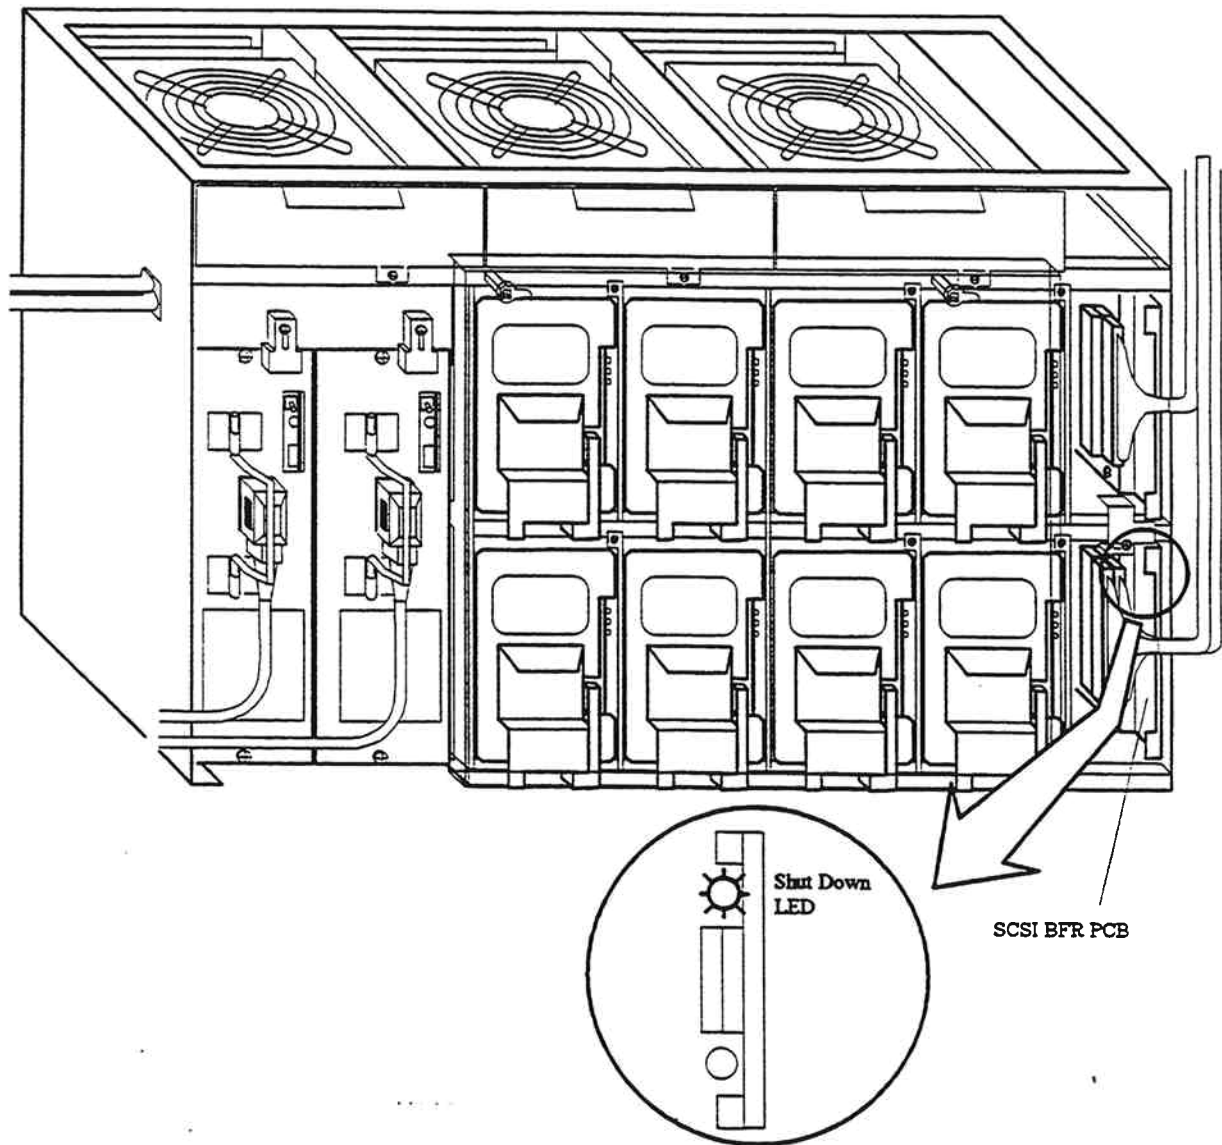

Fig. 3.4.3.2.5-4 Confirmation of the Shut Down LED Light
5. Disconnect the SCSI interface cables from the SCSI BFR PCBs in the second DKU chassis referring to figures 3.4.3.2.5-5 and 3.4.3.2.5-6.